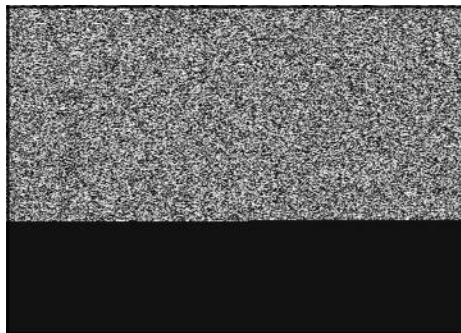

Figure 15
3. Install screws (**B**, Figure 15) to trim plate or (**C**) to rewind guard. Torque screws to values listed in Section 12 - Engine Specifications.